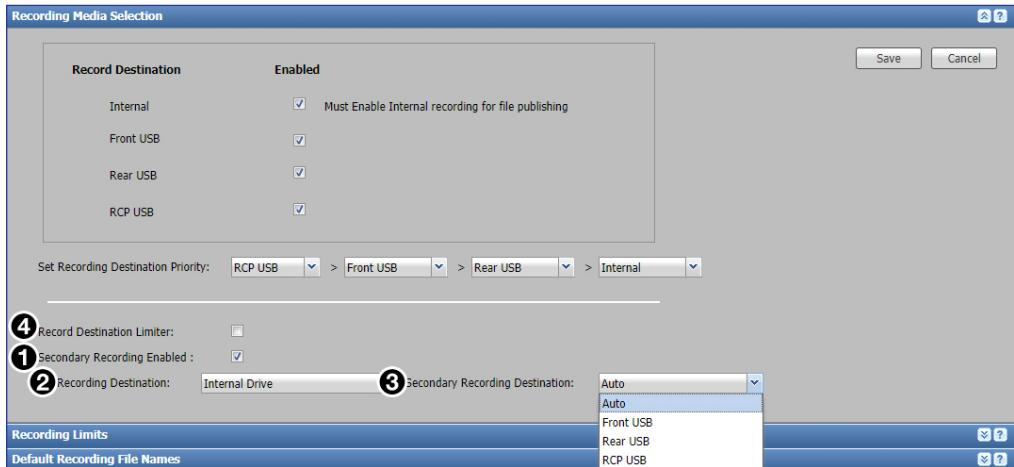

Figure 70. Recording Media Selection - Enable Dual Recording
- Select (check) the **Secondary Recording Enabled** checkbox (see figure 70, ①).